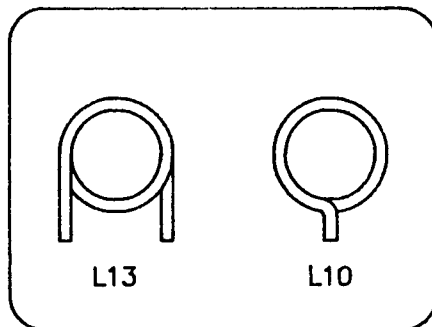

FIGURE 2
- For L5, (page 7, fig. 2) again wind as you did for L11.